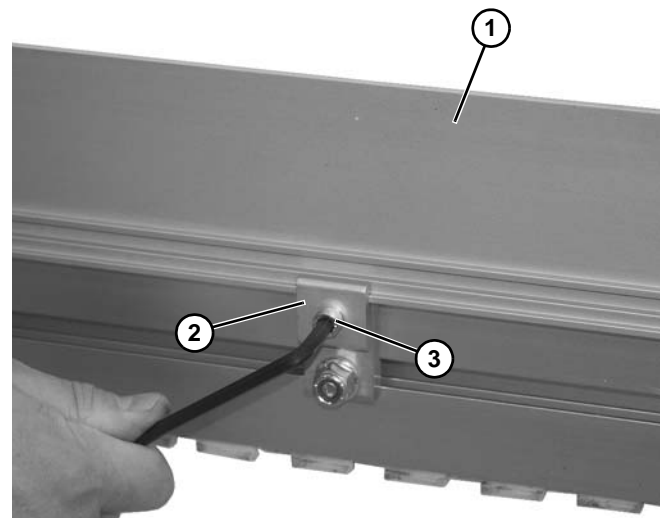

Figure 66
5. Install guide (Figure 66, item 1) and retaining clip (Figure 66, item 2) to conveyor side rail with socket head screw (Figure 66, item 3).